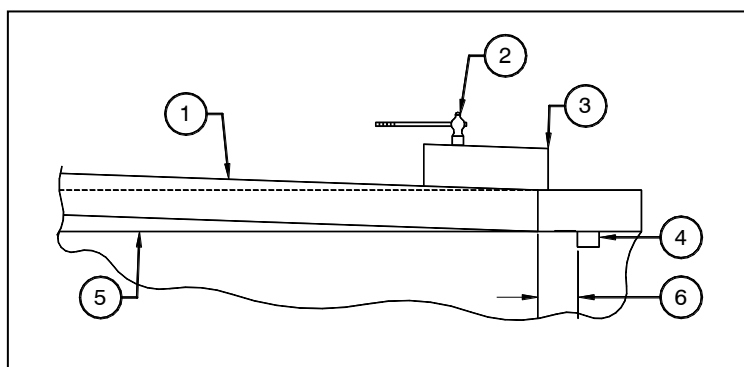

Figure 4.8c
- e. Start the trimmed end of the bearing strip (polished surface facing out) into the mounting groove. It will be approximately 2" away from the removal slot on the drive base and 1" away from the removal slot on the main gear. Use a brass bar (not by Ovivo) and hammer (not by Ovivo), as shown in Figure 4.8c.